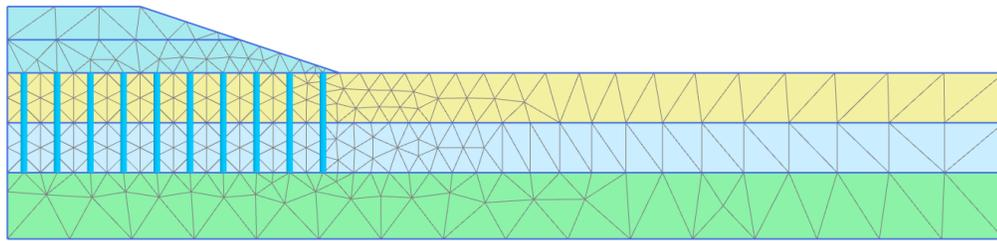

Figure 111: The generated mesh
3. Click the **View mesh** button  to view the mesh as shown in Figure 111 (on page 133).